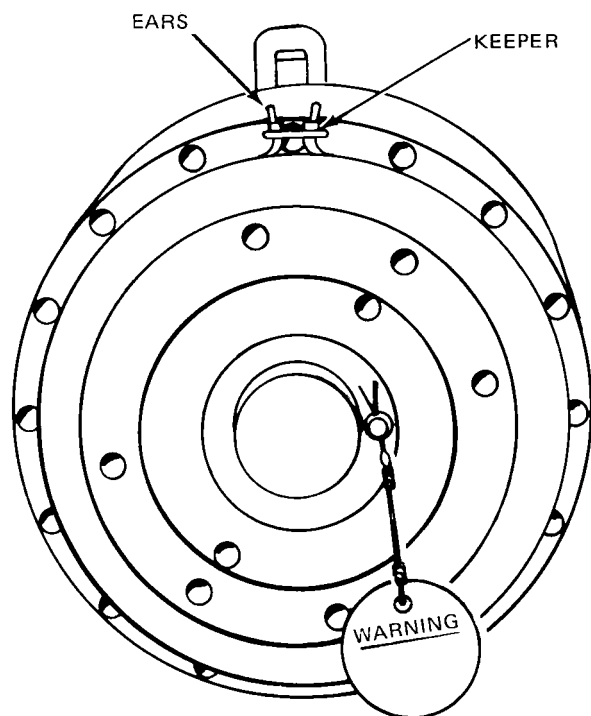

Figure 3-28. Ears Straddling 12 O'Clock Position Hole
4. Squeeze ears together and lock them in place by means of small keeper on ring (figure 3-28).
5. Squeeze ears together and lock them in place by means of small keeper on ring (figure 3-28).
6. Place ears so they straddle the 12 o'clock position hole on bomb (figure 3-28).